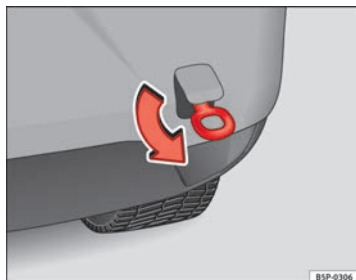

Fig. 207 Fitting the towline anchorage to the rear of the vehicle
- Screw the towline anchorage as shown by the arrow *anticlockwise* to the limit position in the front ⇒ Fig. 206 or rear ⇒ Fig. 207 threaded hole.